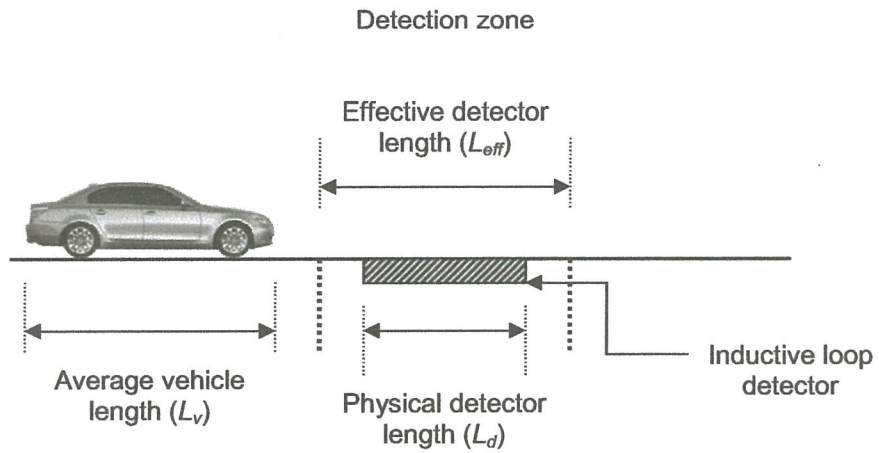

FIGURE Q1: Inductive loop detector
- (b) One example of vehicle detection method is Inductive Loop Detector (ILD). The method is used to measure vehicle occupancy, which can be used to determine traffic density, and the mechanism is illustrated in **Figure Q1**. Hence, the following equation is derived: